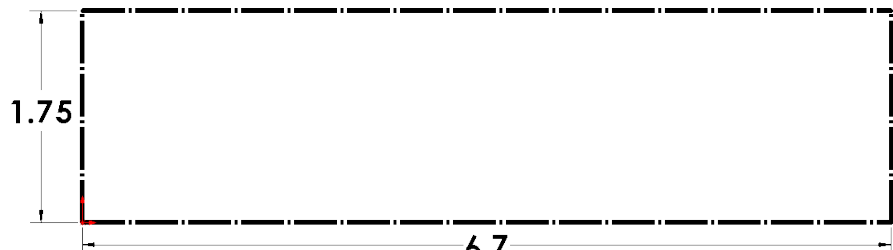

Fig. 4
Step 4. Click **Smart Dimension**  (S) on the Sketch toolbar.
Step 5. Add dimensions as shown in **Fig. 4**. To Smart dimension, click the line then move the cursor out away from the line and click. Key-in the dimension and press ENTER. Arrange the dimensions as shown in **Fig. 4**.